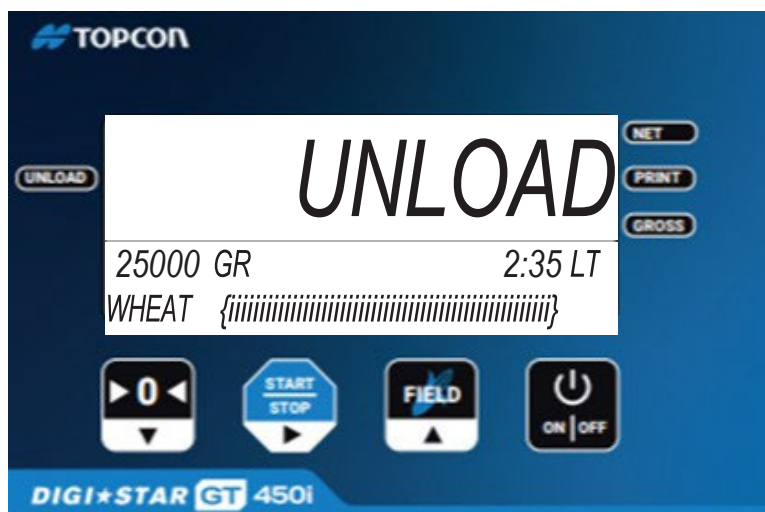

Figure 2-4: Unloading
2. Press **START/STOP** or raise PTO RPM's (Autolog) to begin unloading. Display reads **ZERO**. Arrows point to **NET** and **UNLOAD** (Figure 2-4).